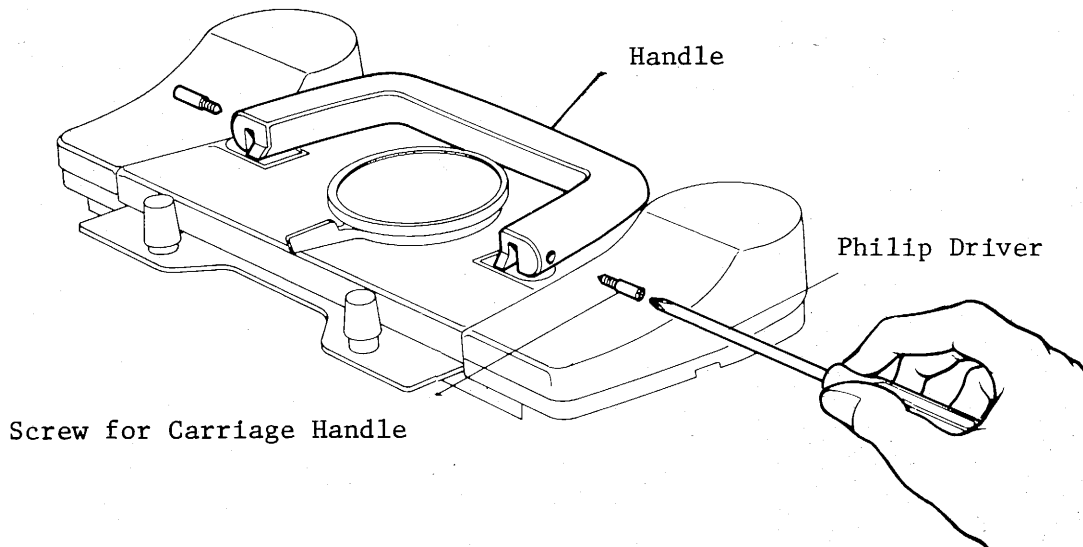

Fig. 21
- (1) Fold Carriage Handle.
- (2) Remove screws for Carriage Handle each located in a recess at each foot of the right and left sides of Carriage Handle with a Philip Driver as shown in Fig. 21